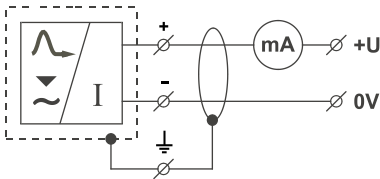
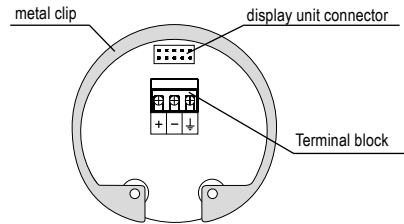

Fig. 31: Wiring diagram of the level meter with current output GRLM-70 \_ \_ \_ - I
Fig. 32: Inside view of screw terminals of the level meter with current output GRLM-70 \_ \_ \_ - I
5. Connect the cable to the screw terminals Fig. 32 or 34 according to the diagram in Fig. 31 or 33. Firmly tighten the terminals and the cable outlet. Tightening torque see. Technical parameters p. 57.
In the event of strong ambient electromagnetic interference, paralleling of conductors with power distribution, or for distribution to distances over 30 m, we recommend grounding the level meter (see above) and using a shielded cable. Ground the shielding of the cable on the side of the power supply, or the shielding is possible to connect only on inside pin of the level meter marked  $\text{⏏}$  see fig. 32 and 34 (the shielding of the cable is always connected in a single location).